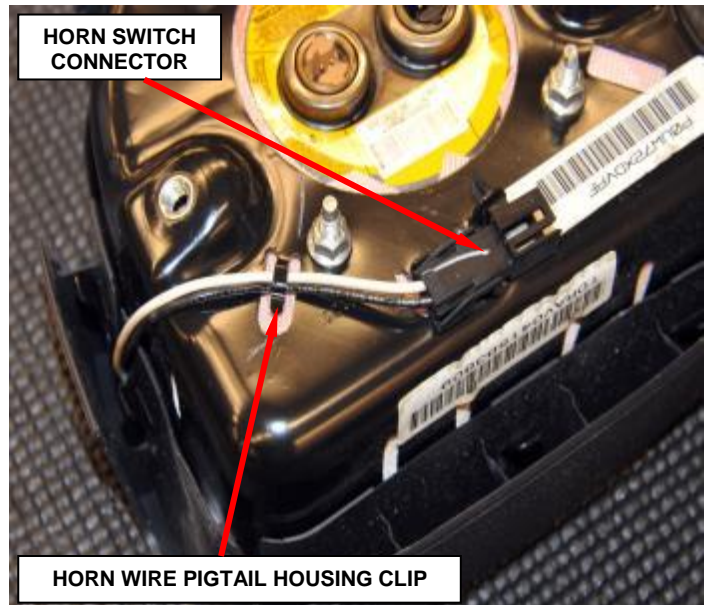

Figure 5 – Horn Connector
10. Remove the horn switch connector from the housing (Figure 5).
11. Remove the horn wire pigtail from the housing clip (Figure 5).